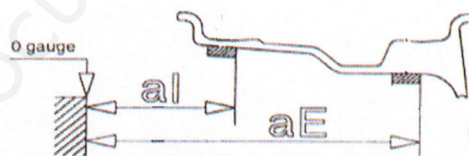
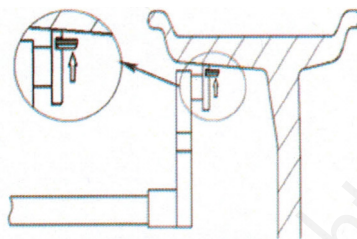

Fig. 10-10
Fig. 10-11
4. If is follow 7-5 input date of rim, press STOP key and ALU key, all middle of LED display - - -,insert correspond counterweight into the scale head slot, slowly spin wheel, when inside counterweight position indicator light (fig. 5-1(8)) all on, draught scale, when inside counterweight position indicator light (fig. 5-1(2)) all on, slowly pull out measure scale and middle of LED display as figure 10-10, then turn the scale, stick counterweight on the rim, ect figure 10-11.
5. Insert correspond counterweight into the scale head slot, slowly spin wheel, when outside counterweight position indicator light (fig. 5-1(9)) all on, draught scale, when inside counterweight position indicator light (fig. 5-1 (4)) all on, turn scale, stick counterweight on the rim, ect figure 10-11.
3. Slowly spin wheel, when outside counterweight position indicator light (figure 5-1(9)) all on, stick counterweight on 12 o'clock position outside of rim, see figure 10-10 right side.
4. Slowly spin wheel again, when outside counterweight position indicator light (figure 5-1(9)) all on, find second position, stick counterweight on 12 o'clock position outside of rim, see figure 10-10 right side.
5. Slowly spin wheel, when outside counterweight position indicator light (figure 5-1(9)) all on, find first position, draught scale, when outside counterweight position indicator light (figure 5-1 (4)) all on, turn scale, stick counterweight on rim (see figure 10-11).
6. Slowly spin wheel, when outside counterweight position indicator light (figure 5-1(9)) all on, find second position, draught scale, when outside counterweight position indicator light (figure 5-1 (4)) all on, turn scale, stick counterweight on rim (see figure 10-11)